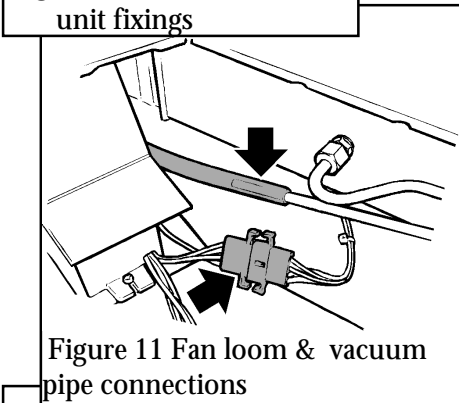

Figure 11 Fan loom & vacuum pipe connections
- 3) Detach the fan wiring loom connection (See figure 11).
- 4) Detach the plastic vacuum tube from the metal vacuum pipe (see figure 11).